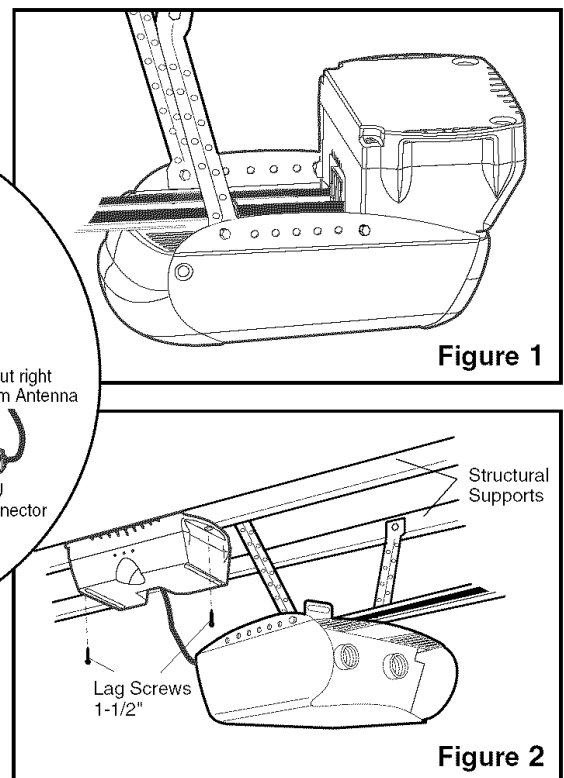

Figure 2
- After the motor unit has been installed, position the BBU above the motor unit to a structural support (joist) within BBU's cord length (3' or .9 m) (Figure 2).